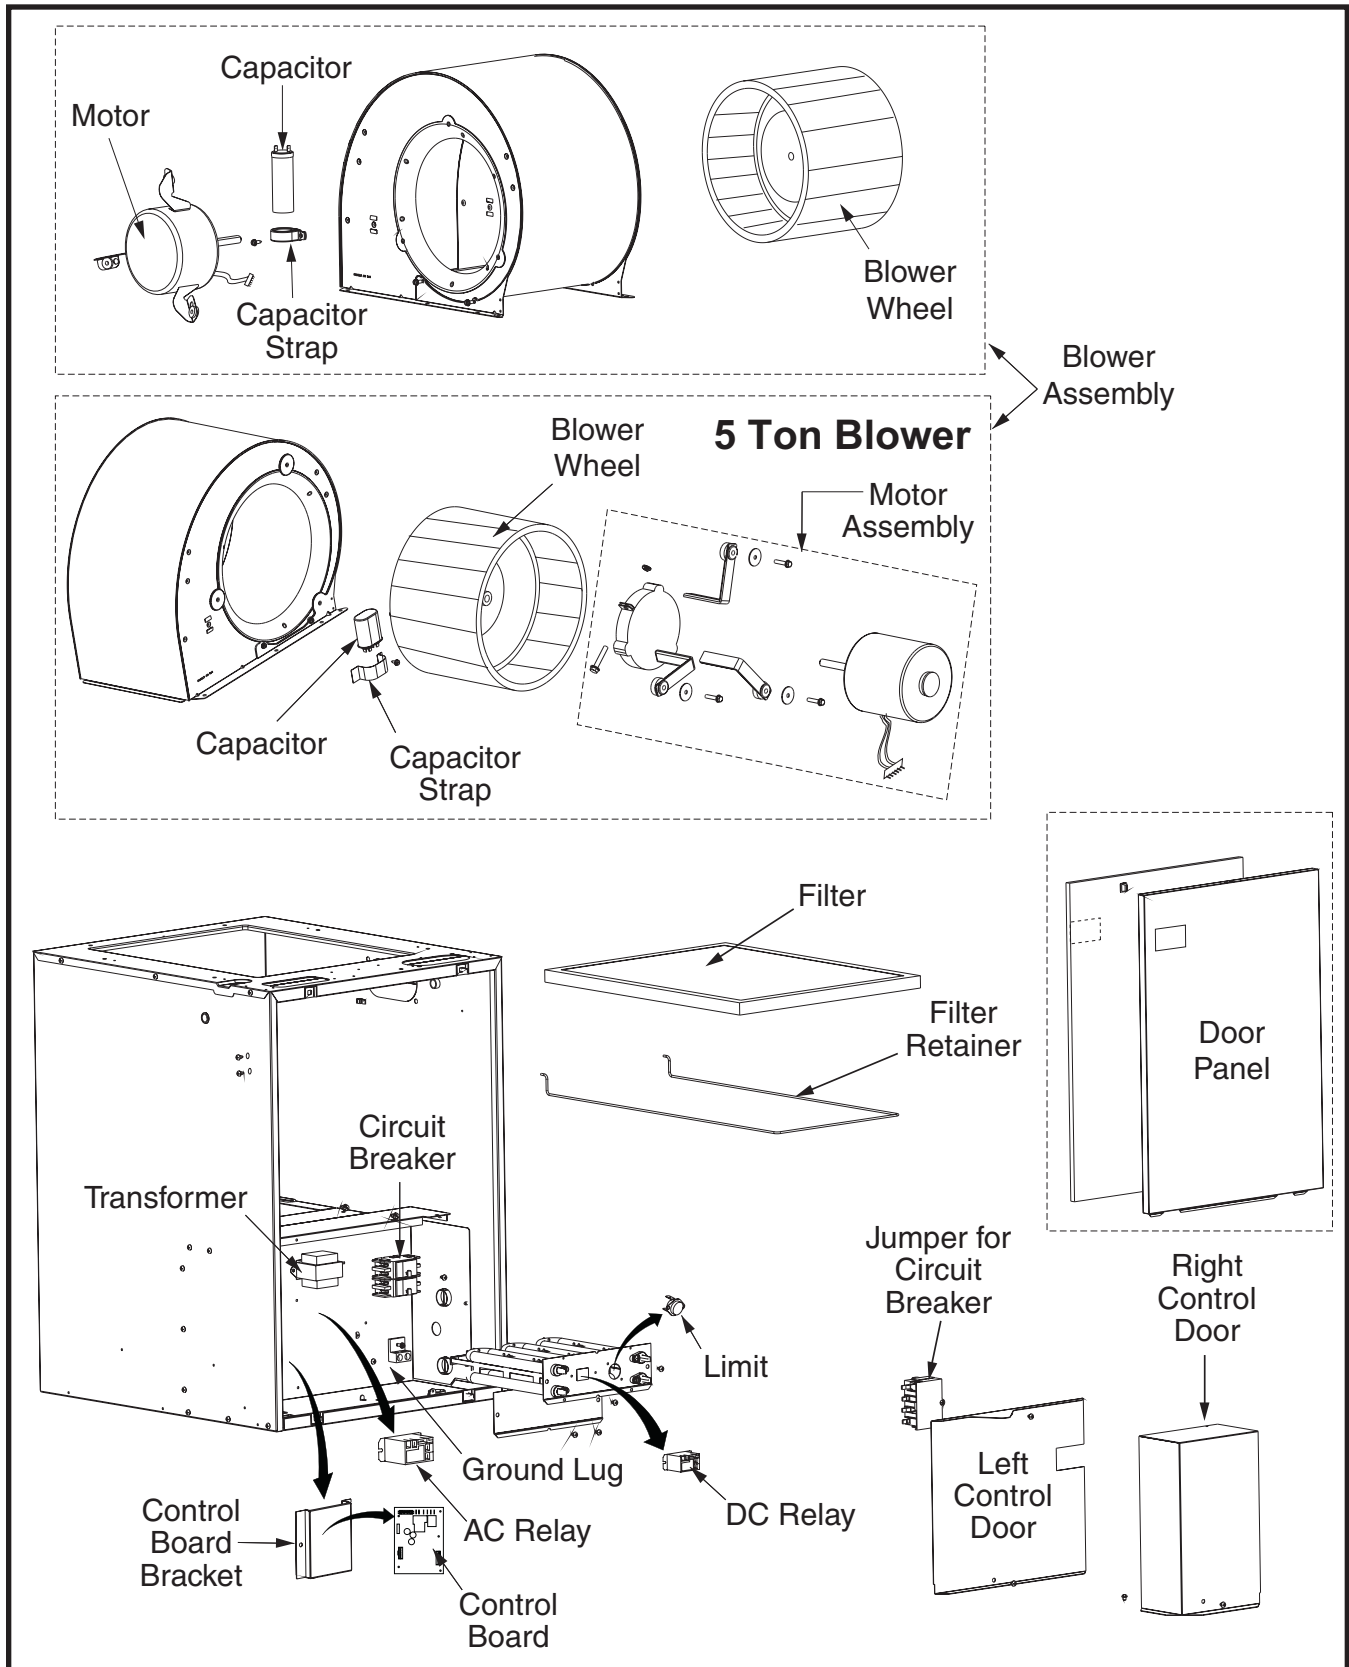

Figure 18. E6 Furnace Components
It is recommended that the line voltage (240 VAC) to the furnace be supplied from a dedicated branch circuit containing the correct fuse or circuit breaker for the furnace. For minimum circuit ampacity and maximum over-current protection, see Table 5. See unit wiring diagrams (Figure 22, Figure 23, Figure 24, & Figure 25) for wiring details. Electrical components are shown in Figure 18 (page 14). Supply circuit requirements are listed below:
6. Connect service ground wire(s) to grounding lug(s) provided. One ground is required for each supply circuit used. See Figure 18 (page 14).